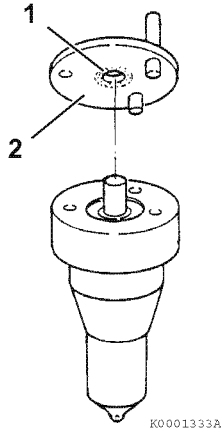

Figure 7-58
6. Inspect the sealing surfaces (2, **Figure 7-58**) between the valve stop spacer and nozzle body for nicks or scratches. Check the contact area between the valve stop spacer and the nozzle valve (1, **Figure 7-58**) for scoring, or pitting. Use a magnifier glass to inspect the area.